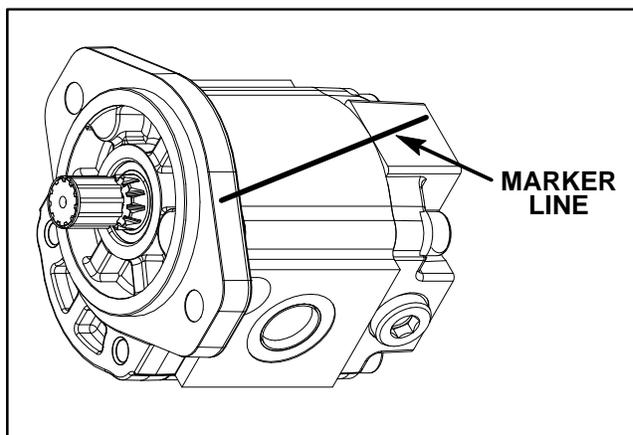

Figure 72
2. Use a marker to make a **diagonal** line across the front flange, body and rear cover for assembly purposes (Fig. 72).